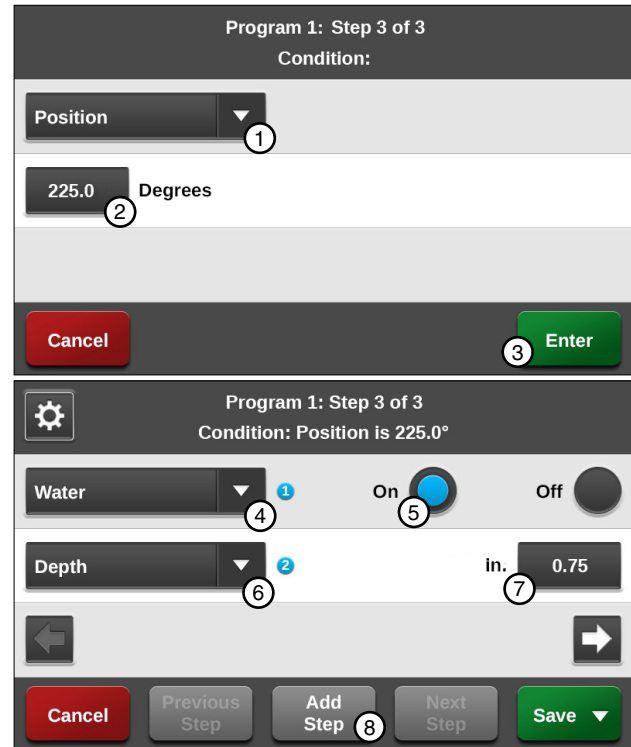

Figure 113-1 1. Position Condition 5. Water On
8. Program the position condition for this step. Refer to Figure 113-1.